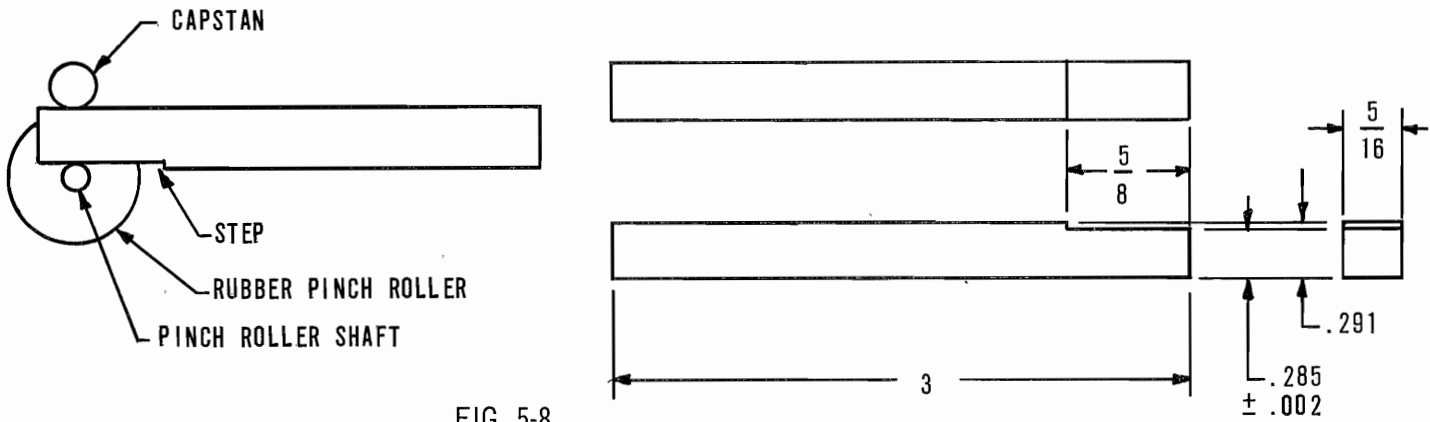

FIG. 5-8
A Go-No-Go gauge is described in Figure 5-8. If it is determined that solenoid adjustment is needed proceed as follows:
- c) Turn the set screw on rear of solenoid in about three turns. Press the START switch and insert the 815-0844 gauge between the capstan and end of the pinch roller shaft as shown in Figure 5-8. Adjust the set screw until the gauge slips into the step - but not beyond.